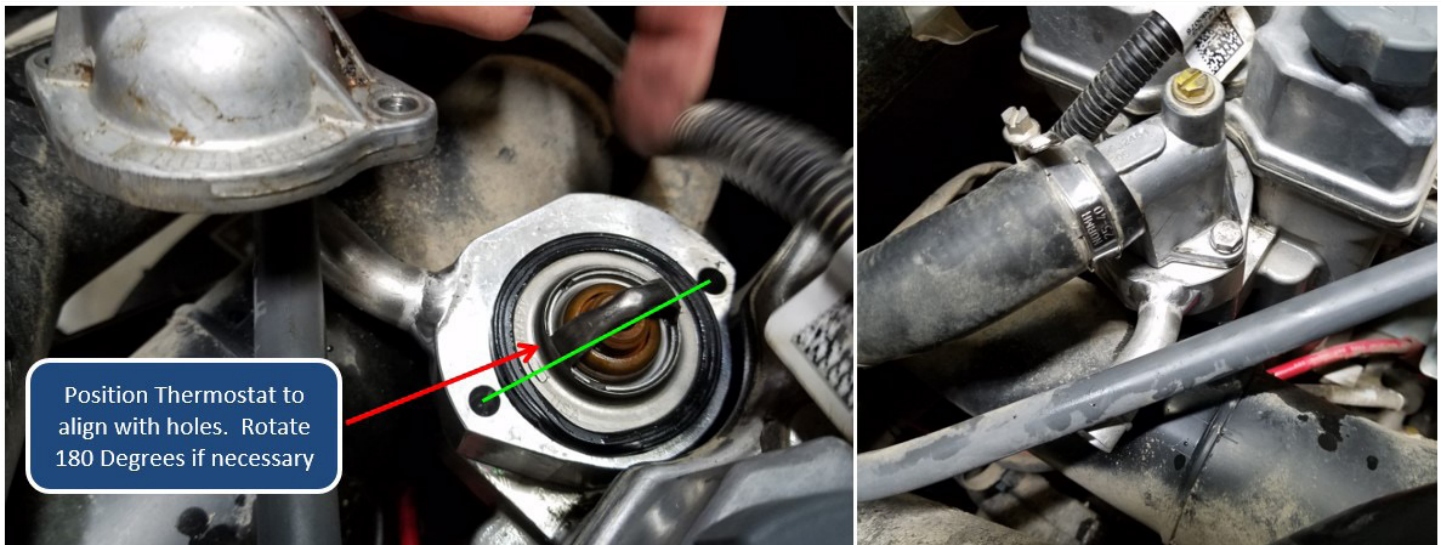

FIGURE 20
45. Position the thermostat bypass valve BP104 as shown in **FIGURE 20**. The green O-ring should face down and touch the engine.